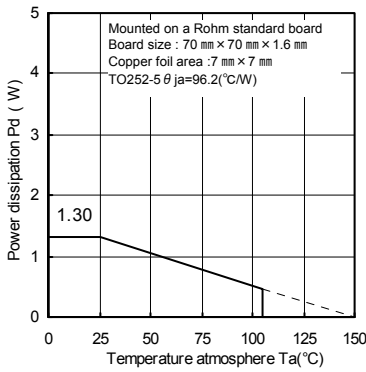
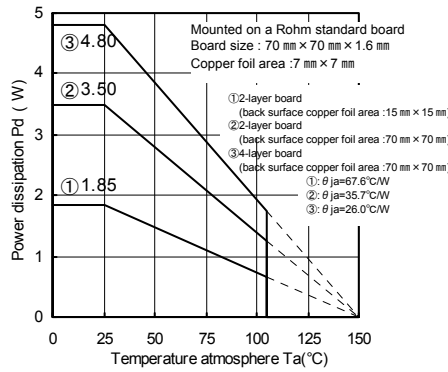
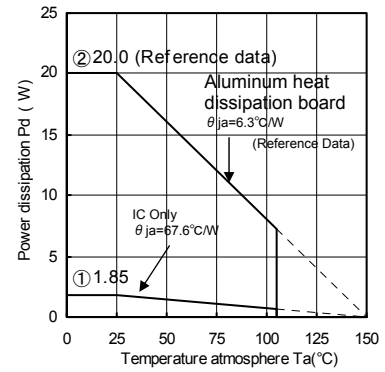

Fig.15
Fig.16(Reference data)
Fig.17
When using at temperatures over $T_a=25^\circ\text{C}$, please refer to the heat reducing characteristics shown in Fig.15 and Fig.16. The IC characteristics are closely related to the temperature at which the IC is used, so it is necessary to operate the IC at temperatures less than the maximum junction temperature $T_{j\text{max}}$.
Fig.15 and Fig.16 shows the acceptable loss and heat reducing characteristics of the TO252-5 package. Even when the ambient temperature T_a is a normal temperature (25°C), the chip (junction) temperature T_j may be quite high so please operate the IC at temperatures less than the acceptable loss P_d .
The calculation method for power consumption $P_c(\text{W})$ is as follows : (Fig.16③ and Fig.17)
$$I_o \leq \frac{2.496 - 10 \times I_b}{5} \quad \left[\begin{array}{l} \text{Fig.16③: } \theta_{ja}=26.0^\circ\text{C/W} \rightarrow -38.4\text{mW}/^\circ\text{C} \\ 25^\circ\text{C}=4.80\text{W} \rightarrow 85^\circ\text{C}=2.496\text{W} \end{array} \right]$$
$$I_o \leq \frac{10.4 - 25 \times I_b}{20} \quad \left[\begin{array}{l} \text{Fig.17(Aluminium heat dissipation board)} \theta_{ja}=6.3^\circ\text{C/W} \rightarrow -160\text{mW}/^\circ\text{C} \\ 25^\circ\text{C}=20\text{W} \rightarrow 85^\circ\text{C}=10.4\text{W} \end{array} \right]$$